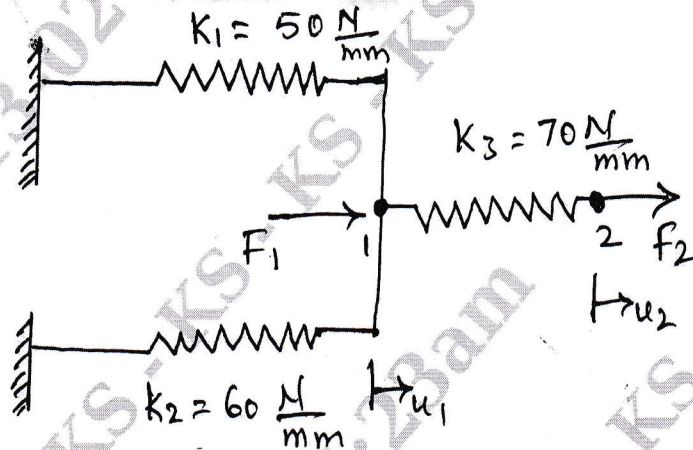

Fig Q1(b)
- b. Determine the nodal displacements for the spring mass system shown in the Fig. Q1(b) by using the principle of minimum potential energy. Take $F_1 = 75\text{N}$ and $F_2 = 100\text{N}$